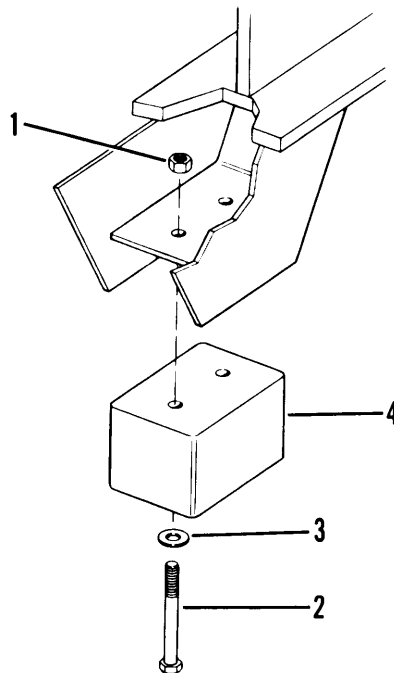

Figure 4-58. Suspension Bumper
- (1) Remove two nuts (1, fig. 4-58) , bolts (2) and washers (3) .
- (2) Remove suspension bumper (4) 1
- (3) Repeat steps 1 and 2 for other suspension bumpers as nedded.
- (1) Place suspension bumper (4, fig. 4-58) into position.
- (2) Install two washers (3), bolts (2) and nuts (1).
- (3) Repeat steps 1 and 2 for other suspension bumpers as needed.